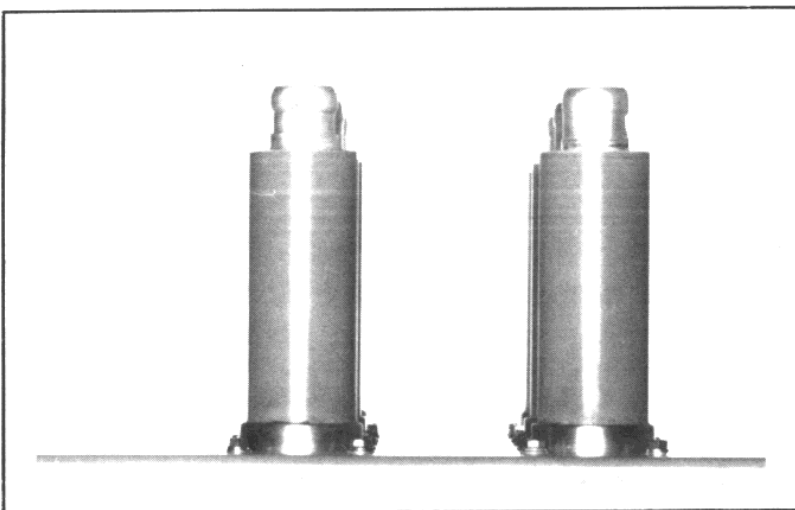
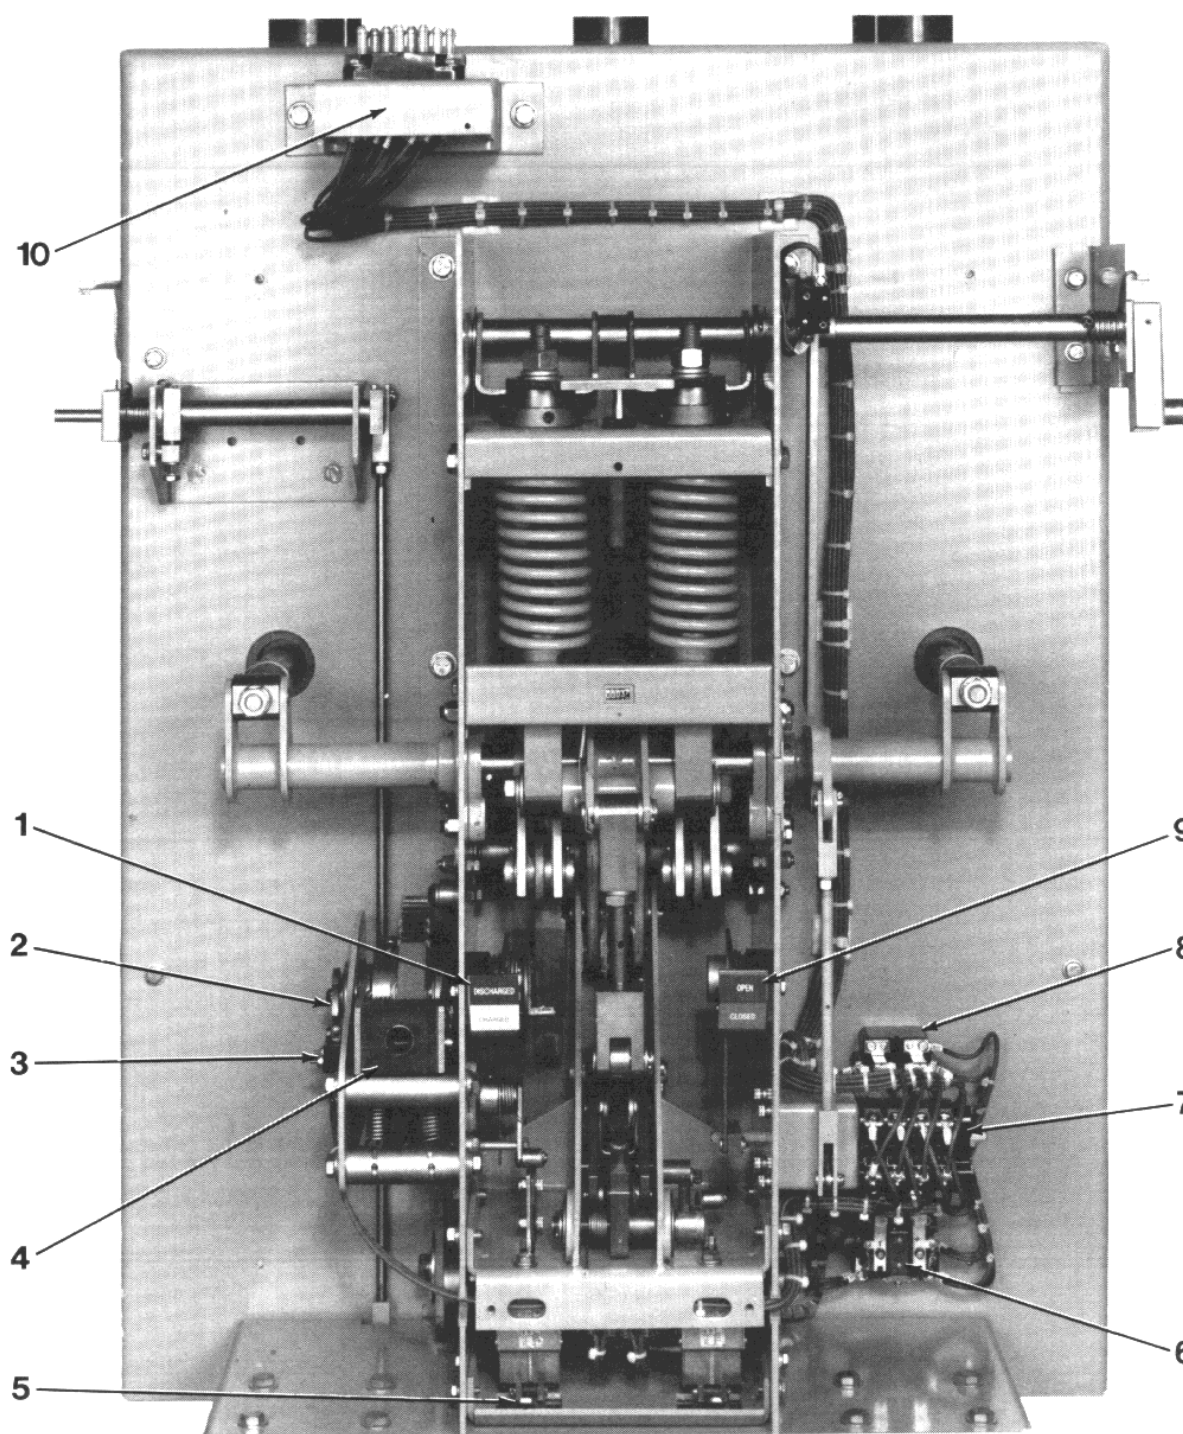

Figure 4
Figure 7
5. Slowly raise the breaker in its cubicle but stop before insertion. Observe that the secondary disconnect (Figure 7, 10) on the breaker is aligned with the secondary coupler on the switchgear. If not, adjust the secondary coupler on the switchgear for proper alignment. Also observe that the six feed-thru bushings (Figure 4) are aligned and centered with the primary disconnects in the switchgear. If not, contact the factory before proceeding.
breaker frame (Figure 4). These are adjusted at the factory for proper alignment. Care should be taken to insure that the feed-thru bushings do not receive rough treatment. NEVER USE THE FEED-THRU BUSHINGS AS HANDLES WHEN MANEUVERING THE BREAKER.
The auxiliary switch (Figure 7,7) is a multi-stage switch used to operate those circuits which are dependent upon the position of the breaker contacts. The schematic diagram indicates how each of the auxiliary switch stages are interconnected with the breaker circuitry.
The charging motor limit switch (Figure 7,3) energizes the motor relay (Figure 7,8) when a drive spring charging opera-
tion is required and de-energizes the motor relay when the drive springs reach the fully charged position. As shown in the schematic diagram the charging motor limit switch (LS) is connected in the normally open position. Whenever the drive springs are not in the fully charged position, the charging motor limit switch cam (Figure 7,2) actuates the charging motor limit switch and allows the switch to assume its normally open position once the drive springs are fully charged.
The anti-pump relay (Figure 7,6) insures that should the control switch (CS/C), which energizes the closing solenoid, be continuously maintained in the closed position, the springs will not be continuously charged and discharged. The anti-pump relay performs this function by allowing the closing solenoid to be energized only if the control switch (CS/C) is closed *after* the drive springs have reached the fully charged position and the motor relay (MR) has been de-energized.
Two indicators are provided on the operating mechanism. The open-close indicator (Figure 7,9) designates the position of the vacuum interrupter contacts. The charge-discharge indicator (Figure 7,1) displays the state (charged or discharged) of the drive springs.
The drive springs can be manually charged by using the manual charging bar (supplied with the breaker) to move the manual charging arm (Figure 7,4) up and down until the drive springs are fully charged. The drive springs are fully charged when the charge-discharge indicator (Figure 7,1) reads charged and the manual charging arm can no longer be raised.
- b) Discharge the drive springs against the blocking pins by raising the close lever (Figure 7,5).